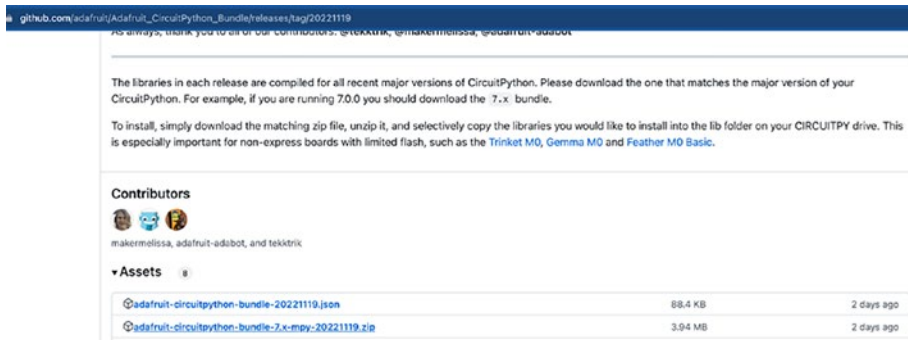

Figure 4-22. Downloading the CircuitPython library .ZIP file
- We will also need to download the CircuitPython libraries⁸—make sure you select the libraries that match the version of CircuitPython that you installed on your Gemma M0 (Figure 4-22). Because the Gemma M0 storage is not huge, we will only copy across the NeoPixel libraries that we might need to control our RGB LEDs. This is as simple as unarchiving the .ZIP file (double-clicking will usually do this) and copying across the required files.